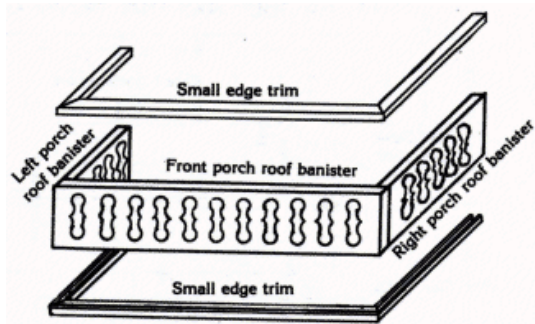

FIGURE 43
1. Locate porch roof banister parts (Sheets HR-8, 13, and 14). Glue together as in Figure 43.